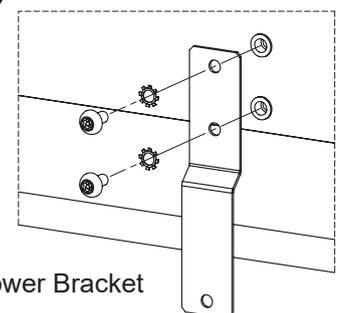

Figure 3: Lower Bracket
- ▶ Secure the lower bracket to unit as per figure 3.
- ▶ Secure the lower bracket to the wall, figure 3.